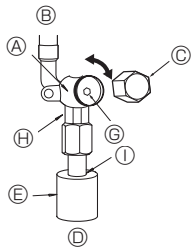

Fig. 4-5
(1) Gas side of P100-P140 (Fig. 4-5)
- ① Remove the cap and turn the valve rod counterclockwise as far as it will go with the use of a 5 mm hexagonal wrench. Stop turning when it hits the stopper. ( $\phi$  15.88: Approximately 13 revolutions)
- ② Make sure that the stop valve is open completely and rotate the cap back to its original position.